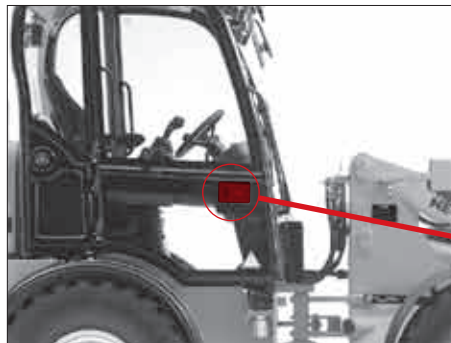

Fig. 20
- Open the cab door from the outside by pulling the door opener (Fig. 20/1).
- Open the door from the inside by pulling the unlocking lever upwards (Fig. 20/2).